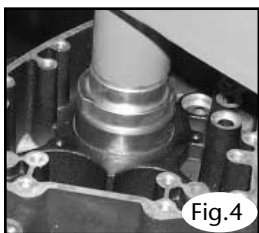

Fig.4
- 4: Start new bearing into it's bore by hand, slip driver/pilot (No.1146-3) through new bearing and into the support tool (bearing letter side up) & position ram of press over the center of driver/pilot (Fig.4), apply pressure slowly until bearing is fully seated or until resistance is felt.